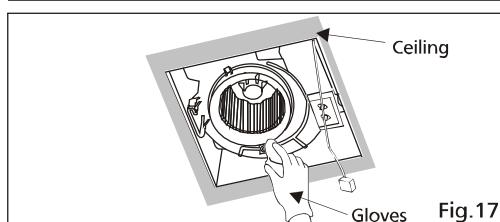

Fig.17
5. Using a cloth dampened with kitchen detergent, remove any dirt from fan body. Wipe dry with clean cloth. (Fig. 17)